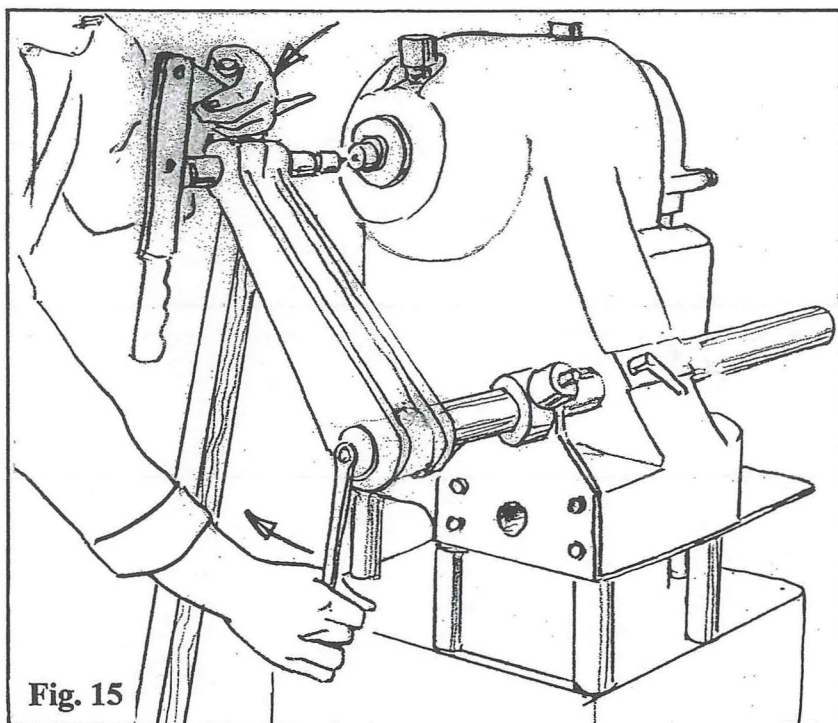

Fig. 15
24. When tightening the *Taper Clamp Cap Screw* that retains and locks the *Tailstock Body Casting* on its eccentric mounting taper, it will be necessary to apply counter-pressure to the casting to prevent it moving with the twisting pressure of the *Taper Clamp Cap*. Do this by applying anti-clockwise force to the top of the *Tailstock Body Casting* as the clamp screw is tightened. Check continually that the alignment of the centres is maintained. (Fig. 15)